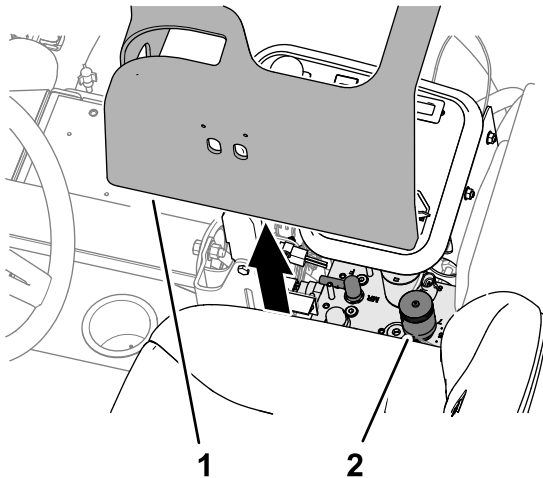

Figure 38
2. Lift the cover from the control arm (Figure 38).